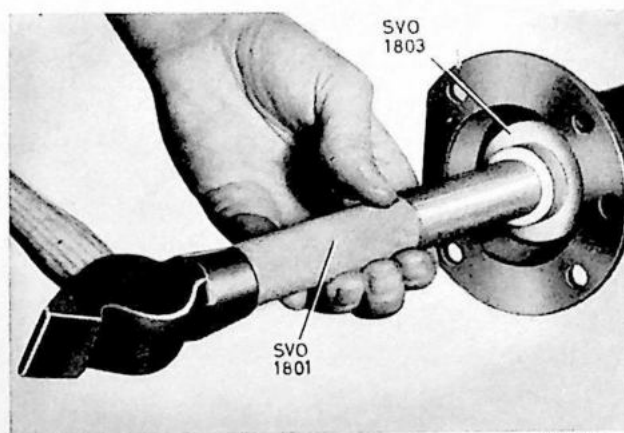

Fig. 4. Fitting sealing ring.
4. Drive in the new sealing ring. Ensure that it is driven in correctly. Use tool SVO 1803, see fig. 4.